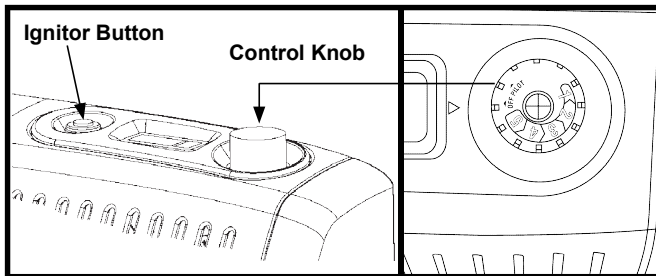

Figure 16
3. Push in gas control knob and slightly turn clockwise  to the OFF position (see figure 16).
4. Wait five (5) minutes to clear out any gas. Then smell for gas including near the floor. If you smell gas, STOP! Follow "B" in the safety information above. If you do not smell gas, go to the next step.
5. Push in and turn control knob counterclockwise  to PILOT. Press in control knob for five (5) seconds.